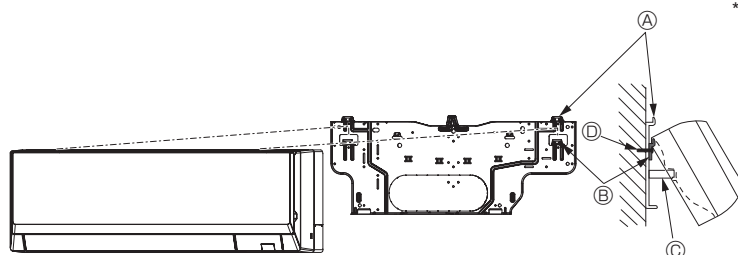

Fig. 3-12
- When the indoor unit cannot be hung and lifted up with the regular hook (the dimension of 2.1. Ⓢ (the clearance between the ceiling and the unit) is 75 mm, 2-15/16 in. or less), hang the unit on the lower hook for left piping. (Fig. 3-12)
(Fig. 3-12)